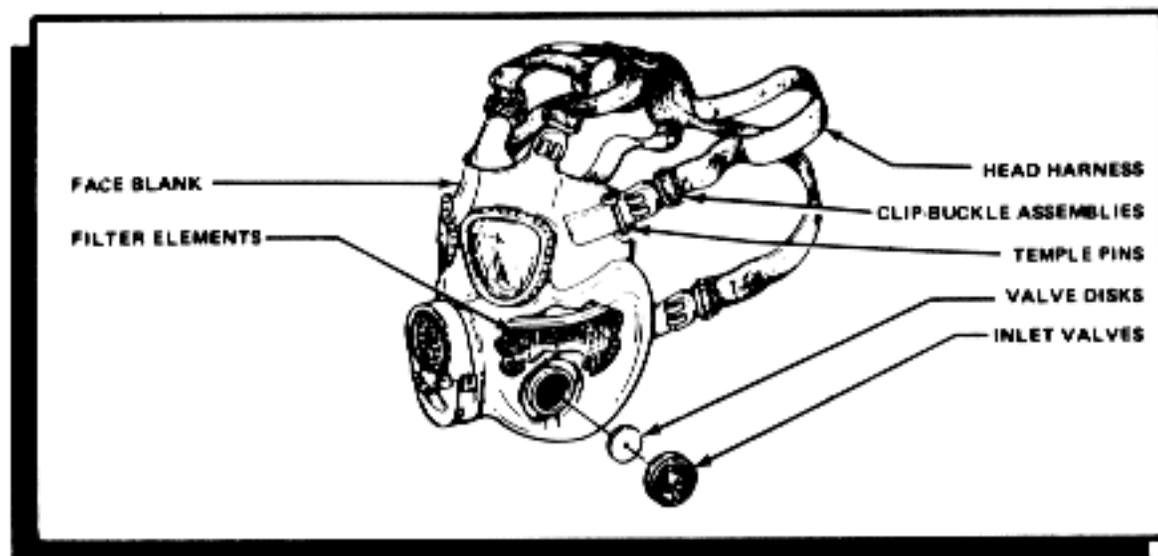

Figure 2-10. M17-series mask.
**M17A1/M17A2 Field Chemical/Biological Mask.** The M17-series mask (figure 2-10) is the standard field mask. It does not protect against ammonia vapors or carbon monoxide, and it must not be used for fire fighting. Filter elements, in the cheeks of the facepiece, filter contaminated air to remove the agents. The mask does not provide breathable air (oxygen); so when the air has a low oxygen content, as in tunnels or caves or when there is a high level of burning smoke mixtures, the mask will not provide protection. Accessories for the field mask are the ABC-M6A2 field